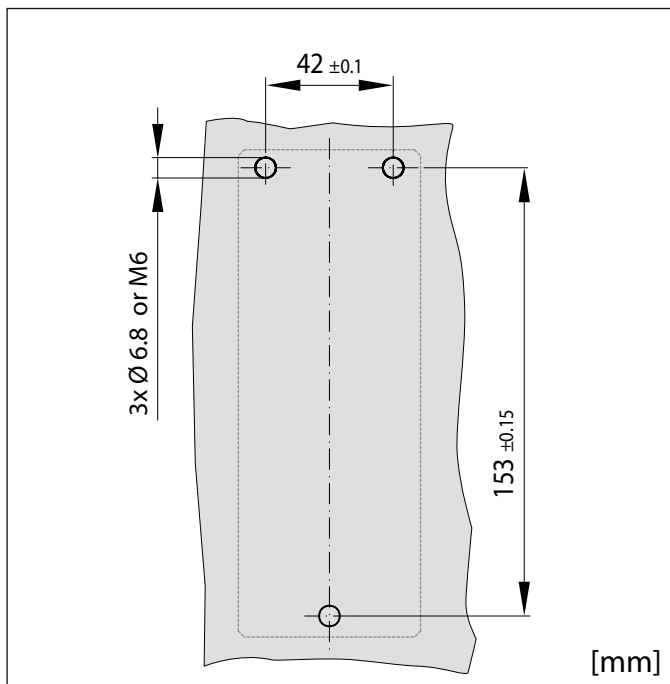

Fig. 2: Dimensions and arrangement of the mounting holes
- ▶ 3 mounting holes must be prepared on the mounting plate or frame according to *Fig. 2*.